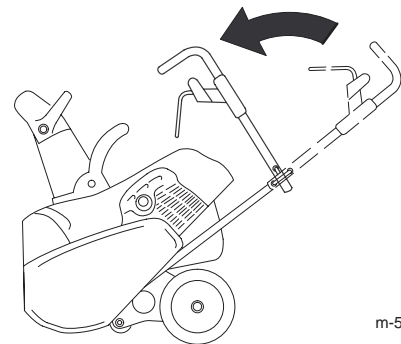

Figure 22
2. Position the upper handle as shown in Figure 22.